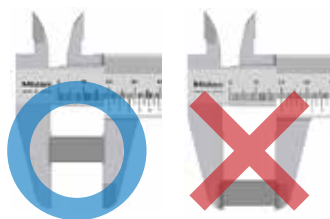

Fig. 5
2. Make sure to apply constant force during measurement, and measure an object as close as possible to the root of the jaws. It is better to avoid measurement with the tip of the jaws. (**Fig. 5**)